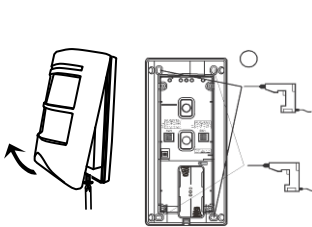

Fig. 1
1. Refer to Fig. 1, loosen the screw on the PIR bottom, remove the front cover, and then insert two AA alkaline batteries.